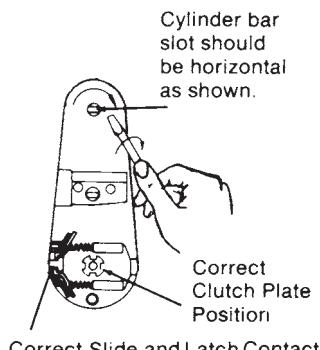
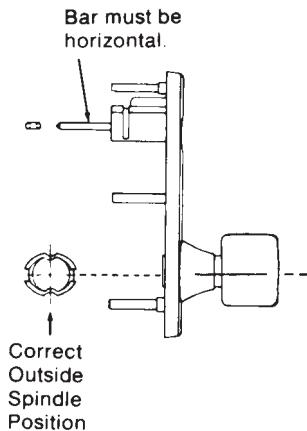
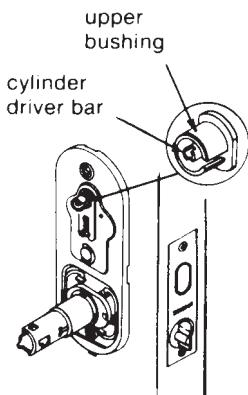

Figure 13.64 Testing lock.
Figure 13.65 Rotate cylinder bar.
Figure 13.67 Driver bar must be vertical.
- From the outside of the door, turn the cylinder bar slot with a screwdriver to check the action of the deadbolt and deadlatch. Once you are satisfied that the lock works properly, retract the deadbolt and release the knob button. Turn the cylinder bar slot to the horizontal position (Fig. 13.64). The clutch plate should be situated as shown.
- Rotate the cylinder bar to the horizontal position with the knob spindle as shown (Fig. 13.65).
13. Insert the cylinder bar into the bar slot in the top hole. Engage the clutch plate with the outside knob spindle. The spindle must be positioned as shown in Fig. 13.65 and the clutch as shown in Figures 13.64 and 13.66. G85PD locksets require that the cylinder driver bar be flush with the end of the upper bushing (Fig. 13.67).